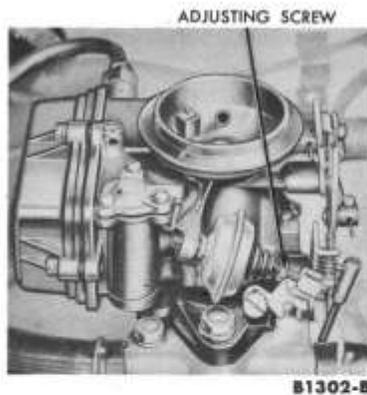

FIG. 18—Anti-Stall Dashpot Adjustment
23. Check And Adjust Anti-Stall Dashpot Clearance—Fordomatic. With the engine idle speed and mixture properly adjusted, and the engine at operating temperature, turn the anti-stall dashpot adjustment screw in or away from the dashpot plunger (Fig. 18).